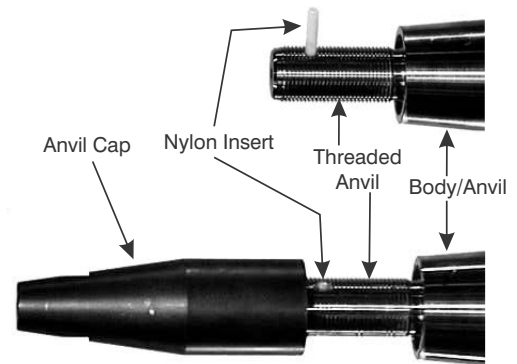
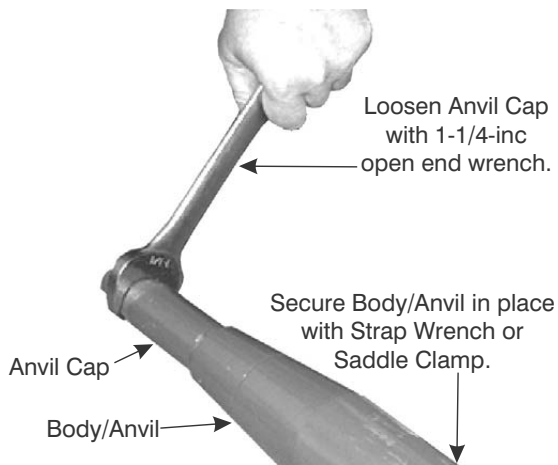

Figure 11-4. Anvil Cap and Nylon Insert
Figure 11-5. Loosen Anvil/Cap.
During operation of the Hole-Hog, the Nylon Insert (3) pressing against the threads prevents the Anvil Cap from vibrating off of the anvil. Refer to Figure 11-4.
2. Hold the Body/Anvil (1) in place with a strap or chain wrench. See Figure 11-5.
3. With a 1-1/4-inch open-end wrench, loosen the Anvil/Cap (2) from the Body/Anvil (1). It may be necessary to strike the wrench handle several times with a hammer to loosen the Anvil/Cap. See Figure 11-5.
4. Thread the Anvil/Cap (2) off of the Body/Anvil (1).
5. On Hole-Hogs numbered 650 and above, a Nylon Insert (3) prevents the Anvil Cap from vibrating off of the Anvil during operation. Refer to section 11.4.3 for details.
6. Refer to Figure 11-4 and remove Nylon Insert (3) from the hole in the threaded portion of the Body/Anvil. Discard the Nylon Insert.
2. On Hole-Hogs numbered 650 and above, there is a hole in the Threaded Anvil for insertion of a Nylon Insert (3) as shown in Figure 11-4. Refer to section 11.4.3 for details.
3. Insert the Nylon Insert (3) as shown in Figure 11-4.
4. Thread the Anvil Cap (2) onto the Body/Anvil (1) hand tight.
5. Hold the Body/Anvil (1) in place with a strap or chain wrench. See Figure 11-5.
6. With a 1-1/4-inch open-end wrench, tighten the anvil cap a minimum 1/8-inch past hand tight. See Figures 11-5 and 11-6.